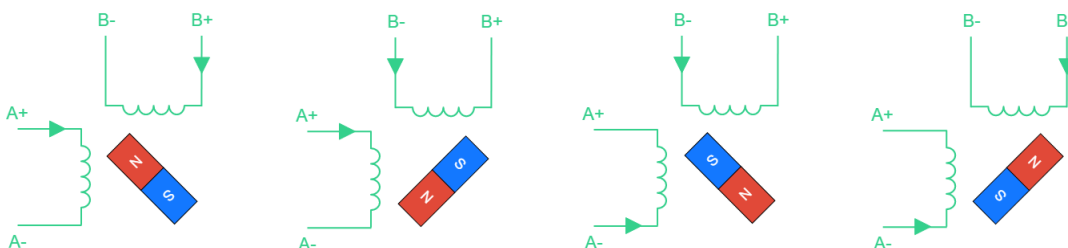

Figure 12: Full-Step Mode Steps
- In full-step mode, two phases are always energized at the same time. Figure 12 shows the different steps of this driving mode. The steps are similar to the wave mode ones, the most significant difference being that with this mode, the motor is able to produce a higher torque since more current is flowing in the motor and a stronger magnetic field is generated.
- Half-step mode is a combination of wave and full-step modes (see Figure 12). Using this combination allows for the step size to be reduced by half (in this case, 45° instead of 90°). The only drawback is that the torque produced by the motor is not constant, since it is higher when both phases are energized, and weaker when only one phase is energized.